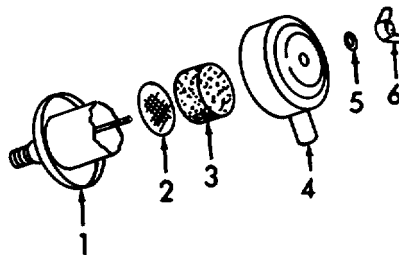

Figure 3-22. Air Cleaner, Installation.
- (1) Inspect for missing or damaged hardware.
- (2) Inspect cover for damage.
- (3) Inspect filter for damage.
- (4) Inspect screen for damage.
- (5) Inspect body for damage.
e. Installation. (Refer to Figure 3-22).